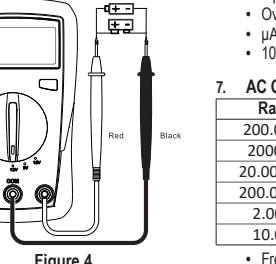

Figure 4
8. Small Battery Measurement (CP7400 only, see Figure 4)